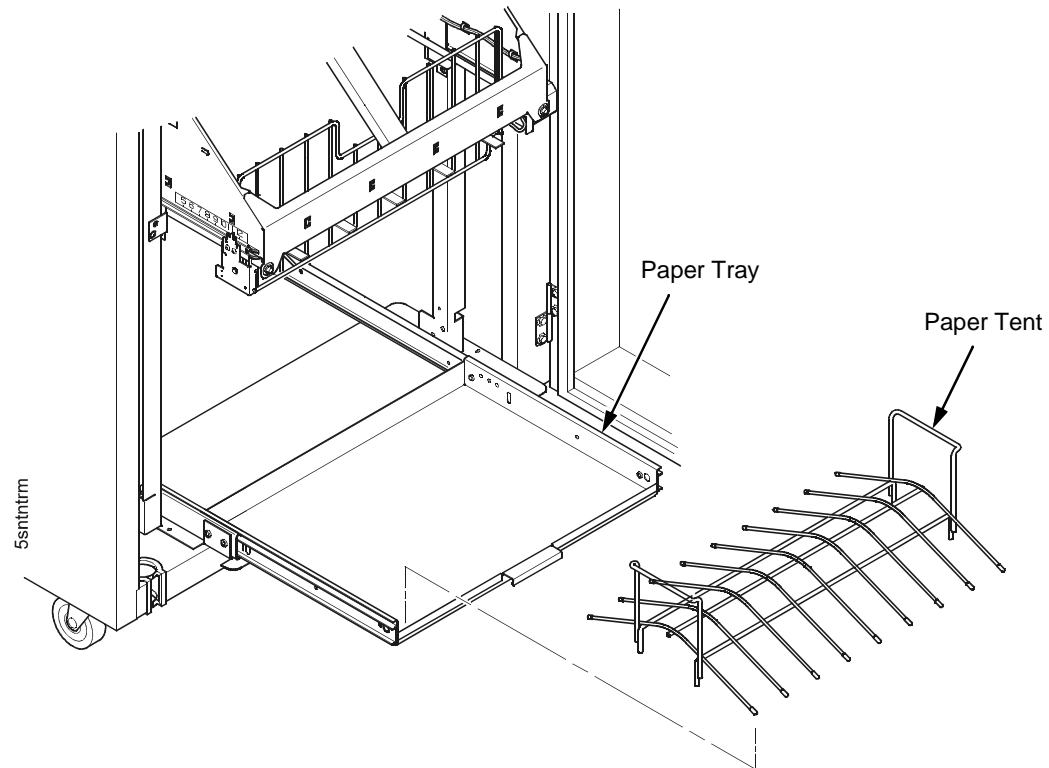

Figure 76. This figure shows how to remove the paper tent.
4. Remove the paper tent. (Figure 76.)